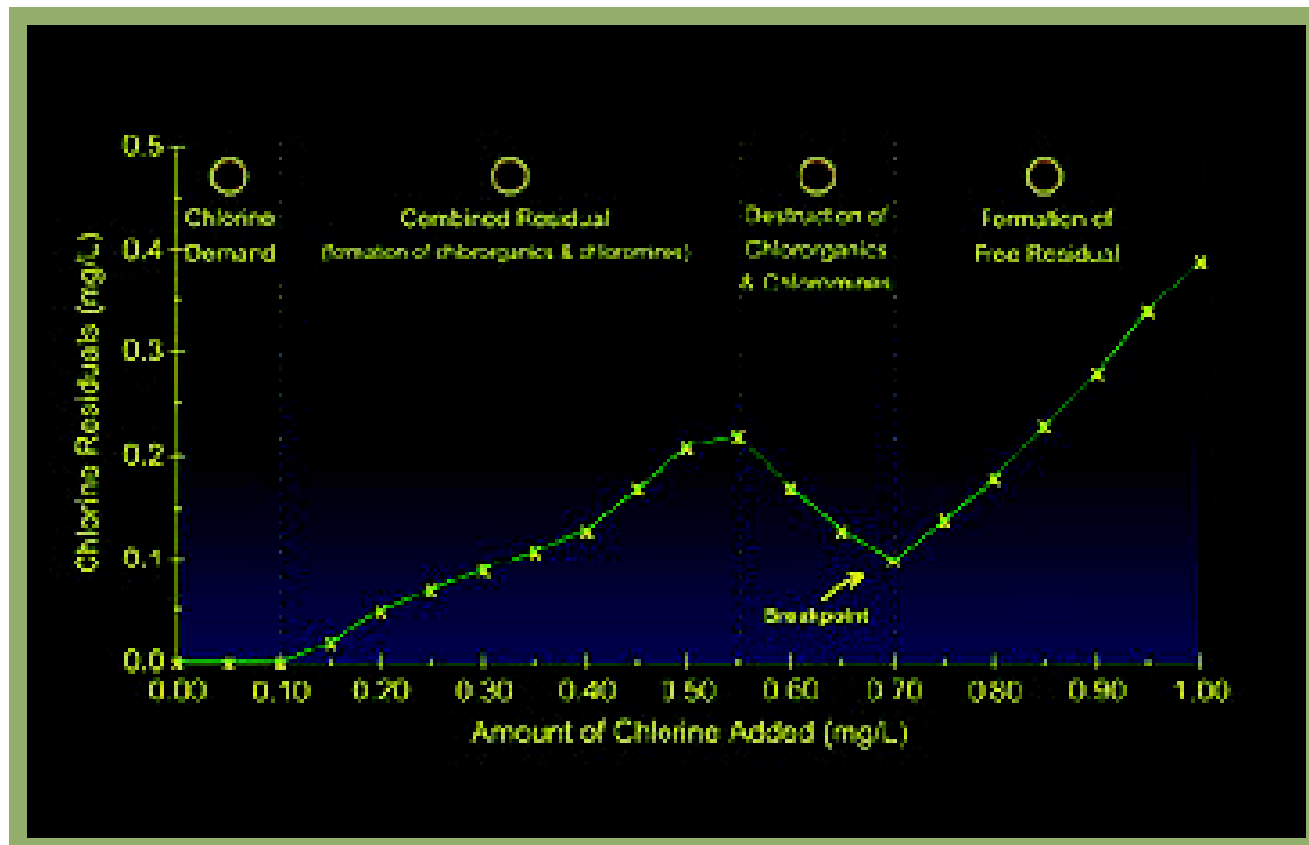

Figure 2: Breakpoint chlorination curve (F-24)
- The process of adding small amounts of chlorine to the water until the demand is satisfied and a free residual is obtained is called breakpoint chlorination. As shown in (FIGURE 2) Breakpoint chlorination curve, when chlorine is first added to water, it might not register a residual.